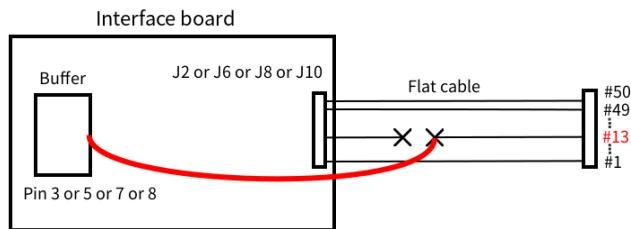

Figure 1.25: How to connect the #13 wire to the buffer.
7. Pins 3,5,7,8 of the buffer chip represent the output of the buffer. Connect each pin to the wire number 13 of the flat cables coming off J2, J6, J8 and J10. The order is not relevant. Of course, in the case of the SideMRD, only one connection is needed (for example J2). Refer to Figure 1.25 for a visual explanation.